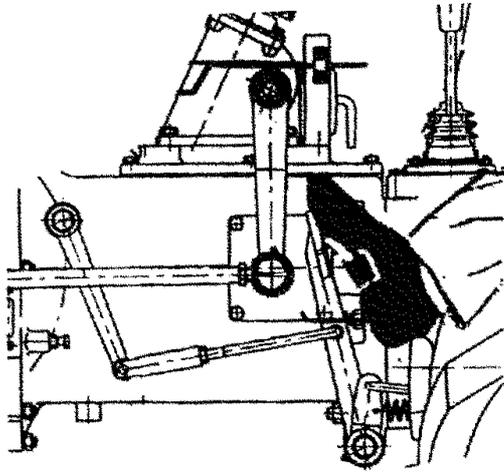
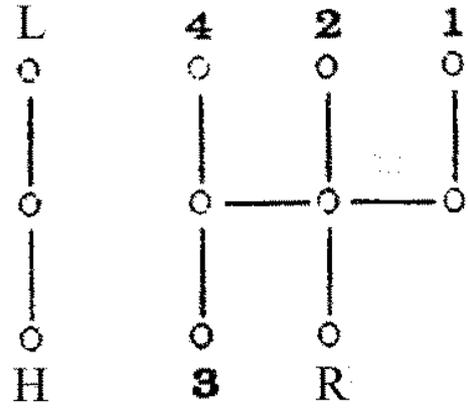

Fig.4-9 Separating the Clutch
Fig.4-10 Gears of the Main and Auxiliary Gearshift Levers
- b. When the engine runs at low speed, step down the clutch pedal to the end, and put the main and auxiliary gearshift levers to the required gears.(see Fig.4-9 and 4-10).
- b. When shifting gears, first of all, step down the clutch pedal to have the clutch disengaged (see fig.4-9). After the tractor stops the gearshift lever of the gearbox should be smoothly put to the required gear positions. If the required gear can not be reached, engage and disengage the clutch again to get the gear. The gear shifting position of gearbox is shown in Fig.4-10.